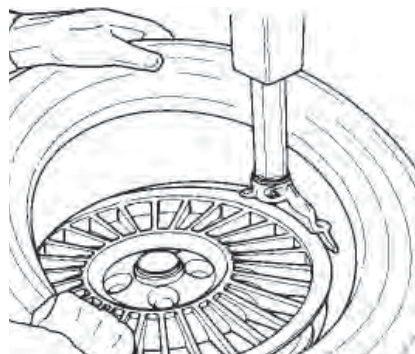

Fig. 4.2-3
B. Lock the rim to the turntable and rotate it so that the valve is at the 2 o'clock position. Place the tire to be mounted on the rim. Tilt the column forward in so that the mount/demount head is in the working position. (Fig. 4.2-3) Position the lower bead on top of the mount/demount head and UNDER the mounting finger of the mount/demount head (Fig. 4.2-3). Turn the wheel clockwise (right pedal down) while simultaneously pushing the tire down into the drop center, opposite to the mount/demount head. For this operation the 14 RPM Pedal Position can be used.